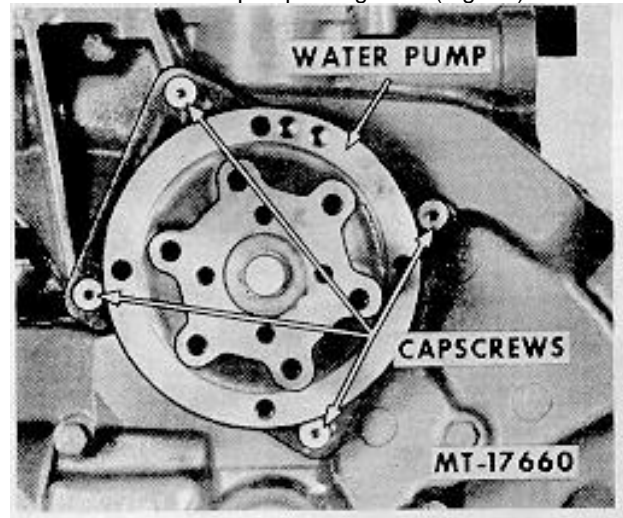

Fig. 42 Water Pump Removal
44. Remove water pump mounting capscrews and remove water pump and gasket (Fig. 42).